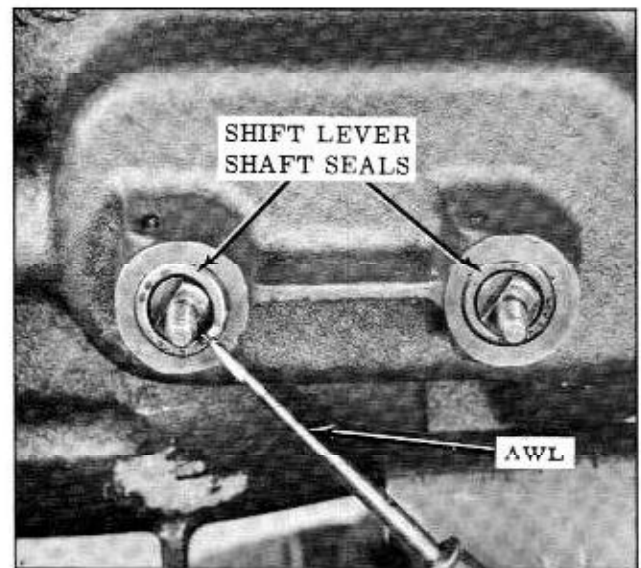

Fig. 10-5 Removing Shift Lever Shaft Seal
3. Puncture metal edge of seal with a prick punch and pry the seal out of the case. (Fig. 10-5)